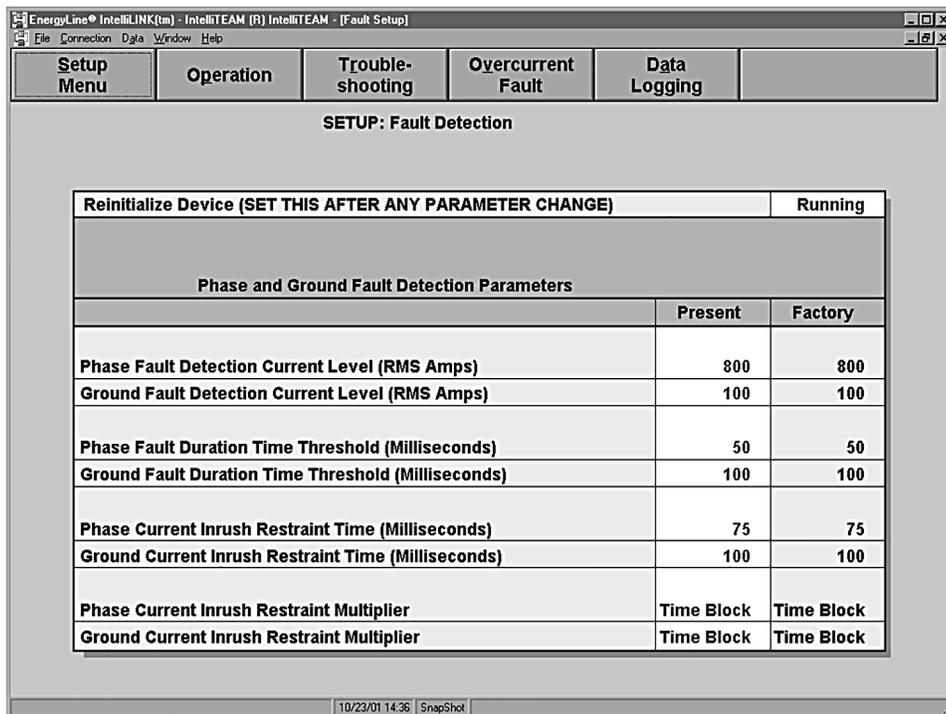

Figure 9. The *Setup>Fault Detection* screen.
**STEP 6.** At the *Setup Menu* screen, click on the **Fault Detection** button to display the *Setup>Fault Detection* screen. See Figure 9.